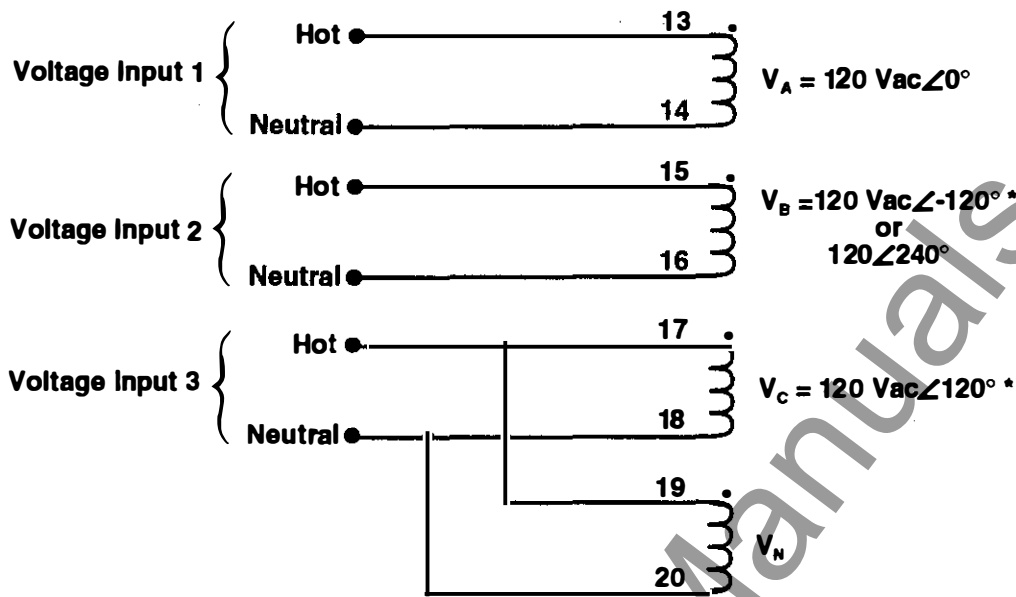

FIGURE 7-1 Voltage Input Configuration
2. Connect the voltage and current inputs according to the configurations shown in Figures 7-1 and 7-2. Before beginning each test, set the test voltage inputs to 120 V ac and the current input to 2 A to simulate normal operating conditions.